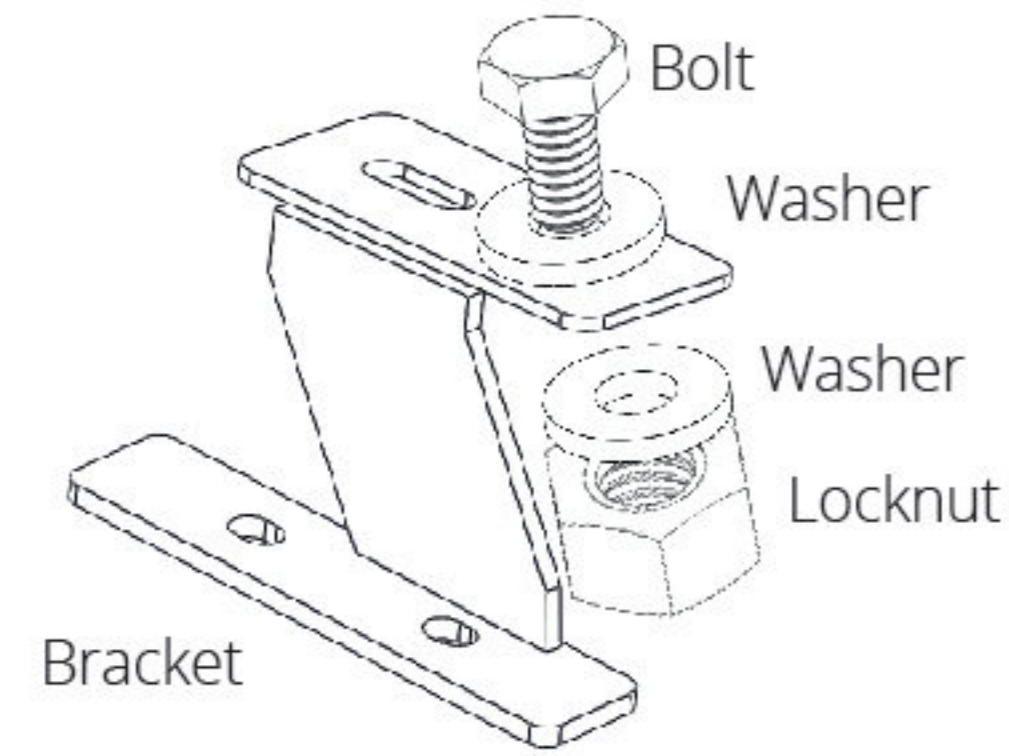

Figure 4
- 6 Remove the plastic on the bottom of the adjustable brackets and place on the plastic roof channel trim. Slide the bolt (J) and washer (L) (See figure 4) through the rack slotted plates and insert washer (L) and nylon lock nut (K).
**Note:** Tighten all bolts using a 13mm or 1/2" wrench or socket. Remember to add grease (N) on bolt threads before inserting into lock nuts.